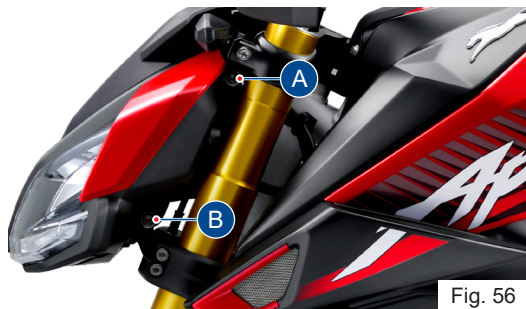

Fig. 56
- Slightly loosen the top mounting bolts (A) on both sides of the headlamp (ref. Fig. 56).
- In similar manner, loosen the bottom mounting bolts (B) on both sides of the headlamp.